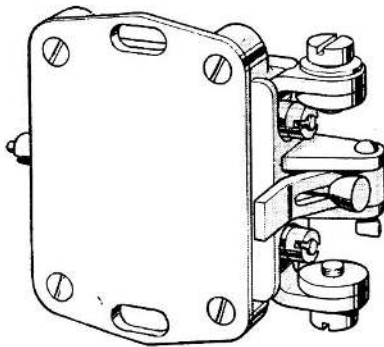

Fig. 1.
2. This switch (*fig. 1 and 2*) is a single-pole, snap-action, normally closed type. The mechanism is contained in a black plastic case mounted on a duralumin base plate, and provided with two mounting slots.